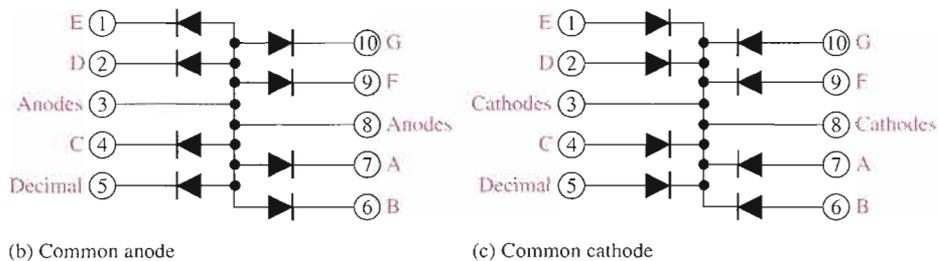

FIGURE 3–32
▲ **FIGURE 3–25**
The symbol for an LED is shown in Figure 3–25.
The basic operation of the **light-emitting diode (LED)** is as follows. When the device is forward-biased, electrons cross the *pn* junction from the *n*-type material and recombine with holes in the *p*-type material. Recall from Chapter 1 that these free electrons are in the conduction band and at a higher energy than the holes in the valence band. When recombination takes place, the recombining electrons release energy in the form of heat and light. A large exposed surface area on one layer of the semiconductive material permits the **photons** to be emitted as visible light. This process, called **electroluminescence**, is illustrated in Figure 3–26. Various impurities are added during the doping process to establish
**Applications** Standard LEDs are used for indicator lamps and readout displays on a wide variety of instruments, ranging from consumer appliances to scientific apparatus. A common type of display device using LEDs is the seven-segment display. Combinations of the segments form the ten decimal digits as illustrated in Figure 3–32. Each segment in the display is an LED. By forward-biasing selected combinations of segments, any decimal digit and a decimal point can be formed. Two types of LED circuit arrangements are the common anode and common cathode as shown.
The **photodiode** is a device that operates in reverse bias, as shown in Figure 3–33(a), where  $I_A$  is the reverse current. The photodiode has a small transparent window that allows light to strike the *pn* junction. Some typical photodiodes are shown in Figure 3–33(b). An alternate photodiode symbol is shown in Figure 3–33(c).